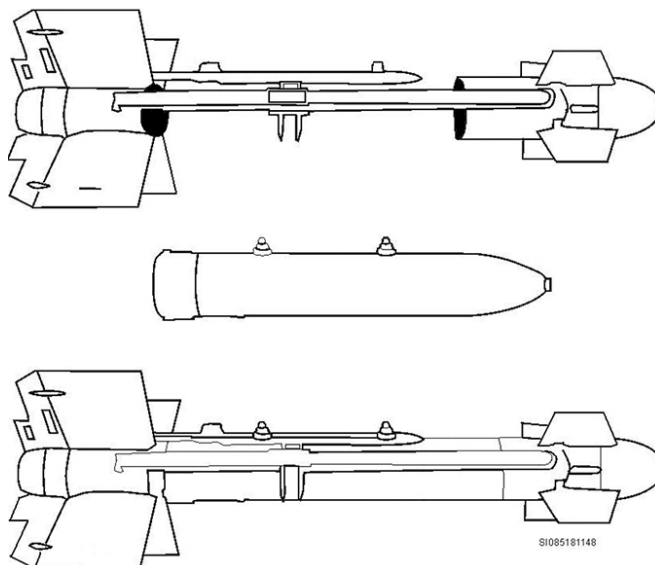

Figure 1-11. GBU-15.
The GBU-15 (fig. 1-11) is an EO guided 2,000 pound weapon. The warhead for this munition is either a BLU-109 or MK-84 2,000-pound bomb. The GBU-15 has 10 different configurations. The GBU-15(V) 1/B uses the MK-84 and with an FMU-124 fuze in the nose and a TV seeker. The GBU-15(V) 2/B uses the MK-84 warhead with an IR heat seeking target-detecting device. The target-detecting devices are for target acquisition and lock on before or after launch from an aircraft. The casing attached to the rear of the bomb houses the autopilot unit, battery, control module, and data link module—essentially all the electrical controls needed to control and guide the bomb. The bomb becomes a complete unit when either the MXU-724/B, A/B or MXU-787/B airfoil group is added. The airfoil group consists of four *strakes* (stabilizing wings) at the nose and four large rear